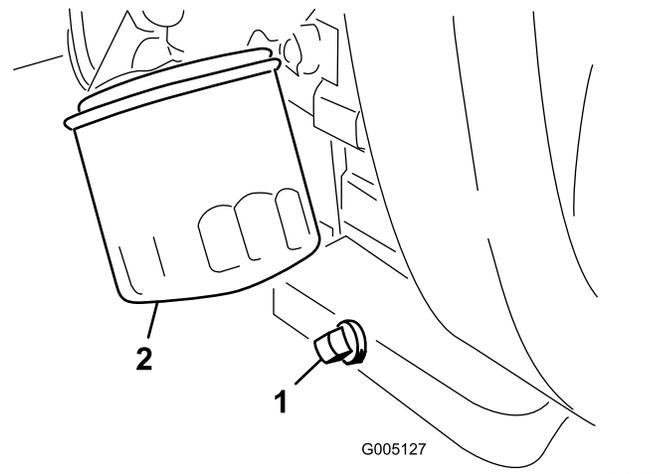

Figure 40
1. Remove the drain plug (Figure 40) and let the oil flow into a drain pan.
2. Clean the threads of the drain plug, apply PTFE sealant, and install the drain plug (Figure 40).
- Remove the oil filter (Figure 40).